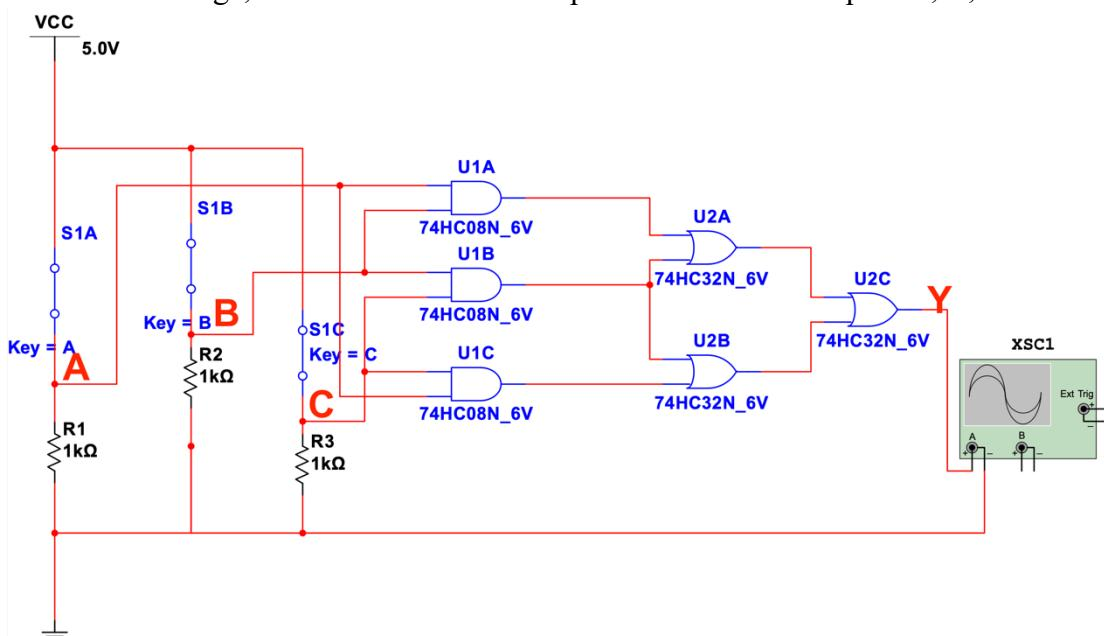

Figure 12. A combination of gate circuits is to be built.
- I. Observe the circuit diagram below (Figure 12). Based on your theoretical knowledge, write the function of output Y in terms of 3 inputs A, B, and C.